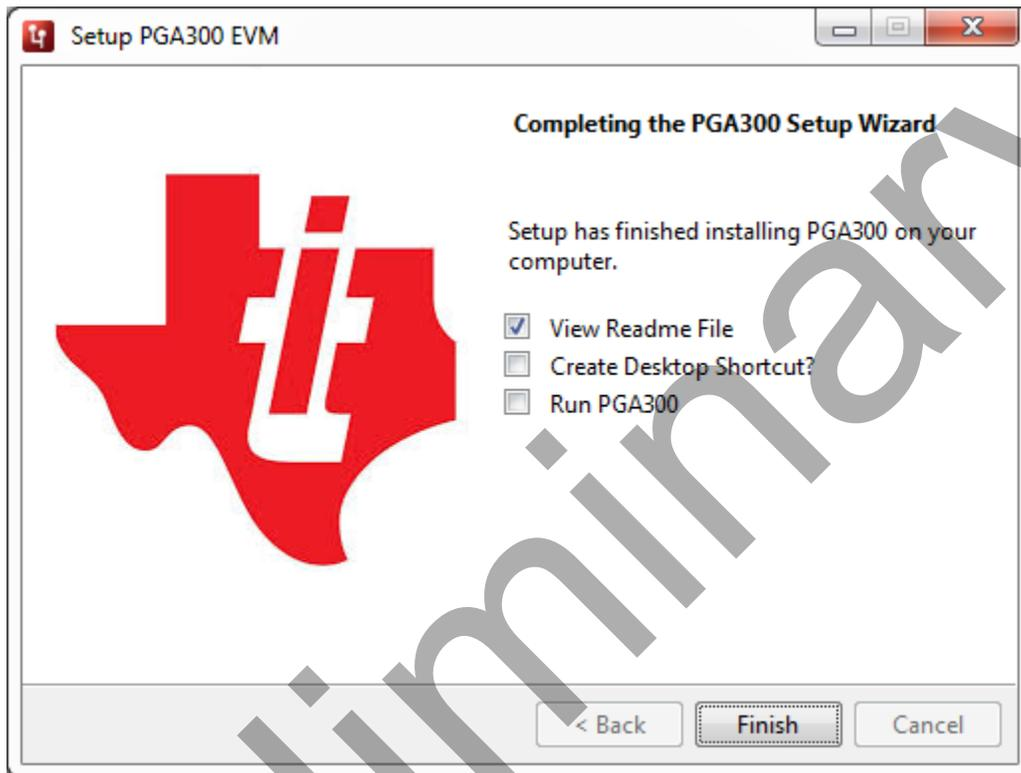

Fig 17: Installation Complete
15. Screen as shown in *Fig 17: Installation Complete* will appear that denotes the end of the PGA300 GUI installation.